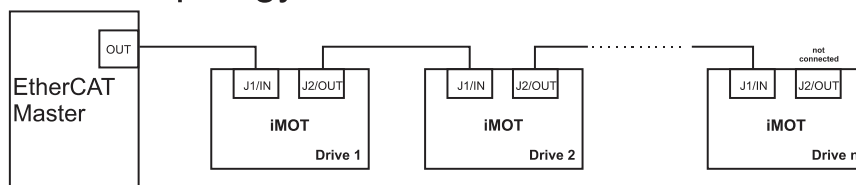

Figure 3.12.1. EtherCAT® network linear topology
- See **Figure 3.12.1** for a visual representation of the linear topology.